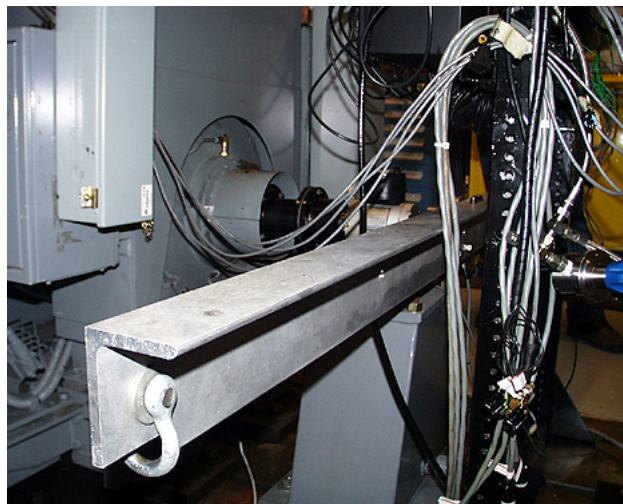

Figure 5
| Figure 5 Shaft Calibration Arm | 5 |
- 110 Attach the shaft calibration arm to the dyno drive hub with four bolts. See Figure 5.